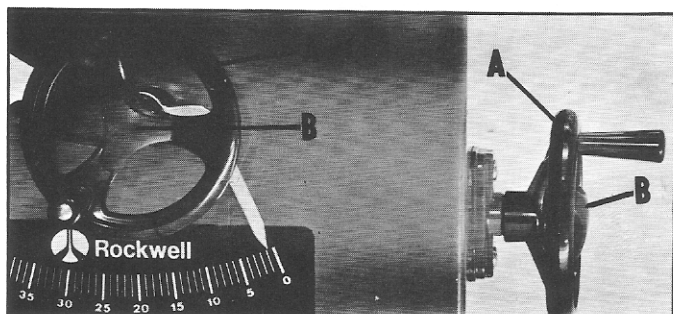

Fig. 16
Assemble the raising and tilting handwheels (A) and lock knobs (B) to the raising and tilting screws, as shown in Fig. 16. Make sure the slot in the handwheels engage with the roll pins in the raising and tilting screws.